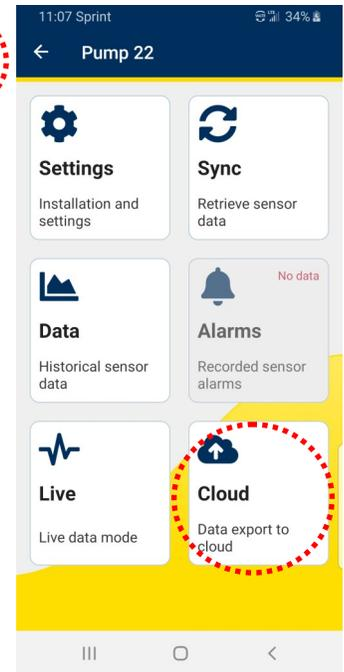

Figure 23
6. Select **Cloud** (see figure 23).